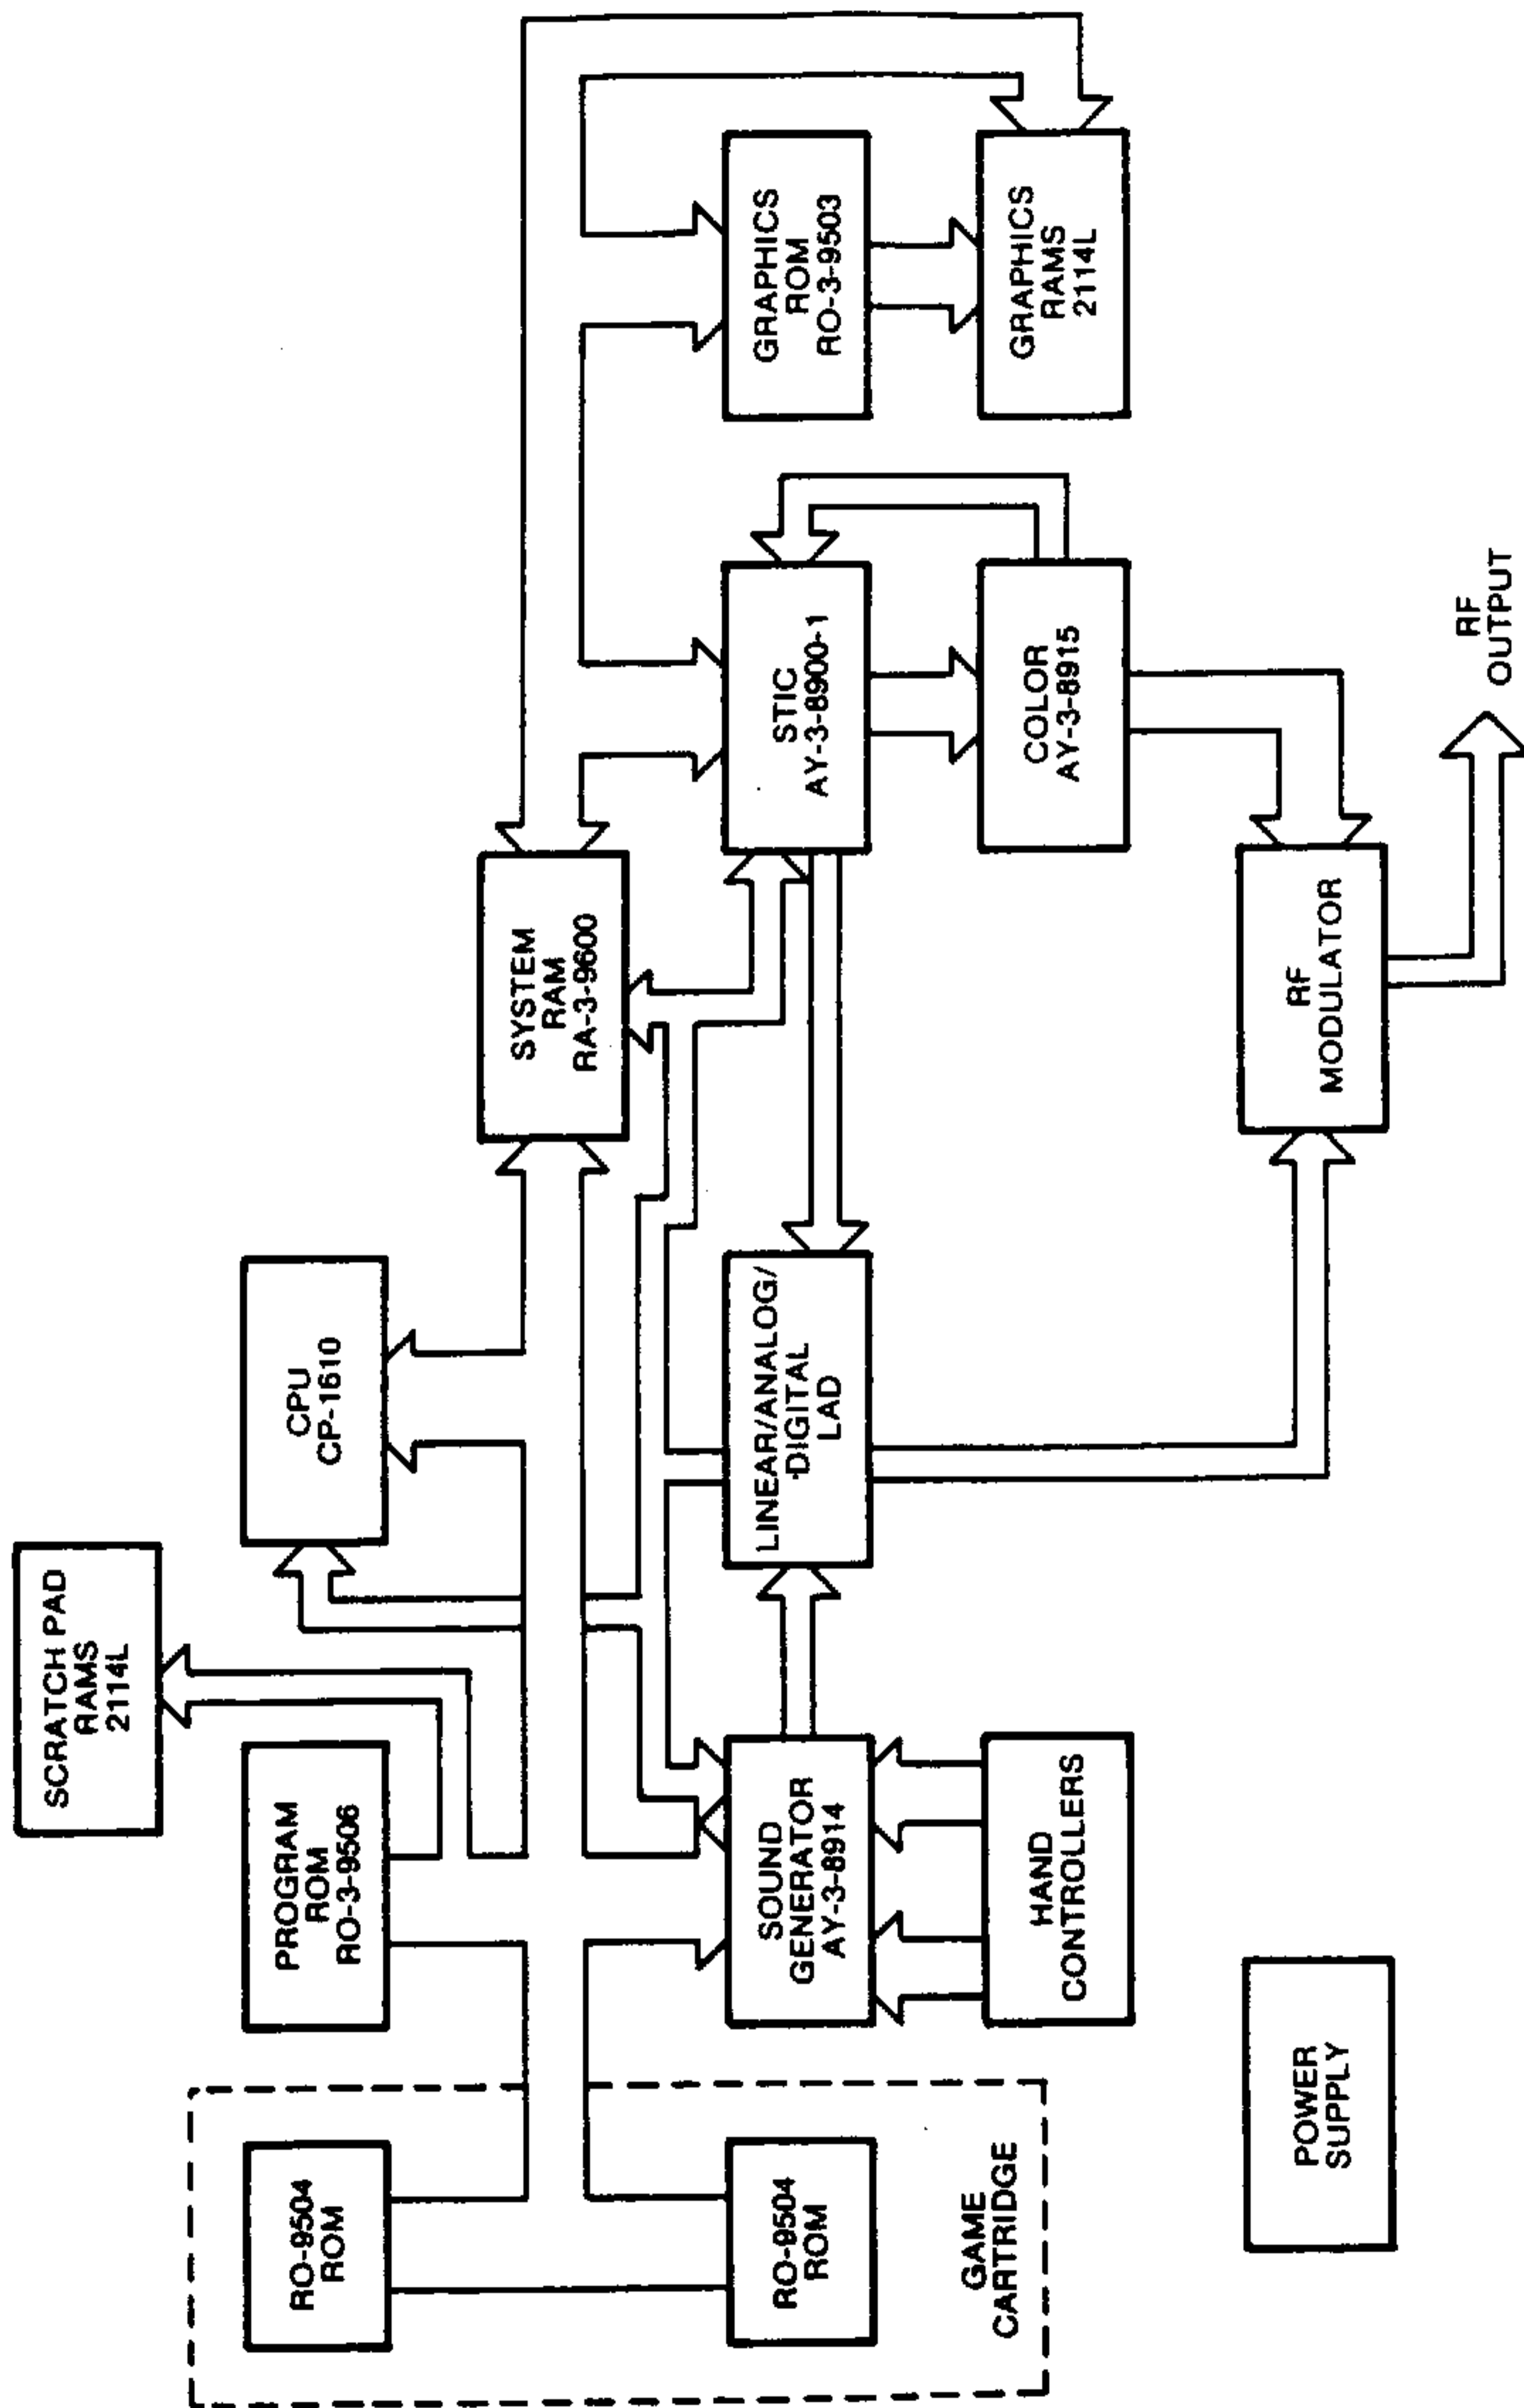

Figure 4 — BLOCK DIAGRAM
**THEORY OF OPERATION.** Referring to Figure 4, System Block Diagram, the system is based on the use of two processors which time-share a bidirectional bus. The Central Processing Unit (CPU) algorithmically computes the game action against program material stored in the